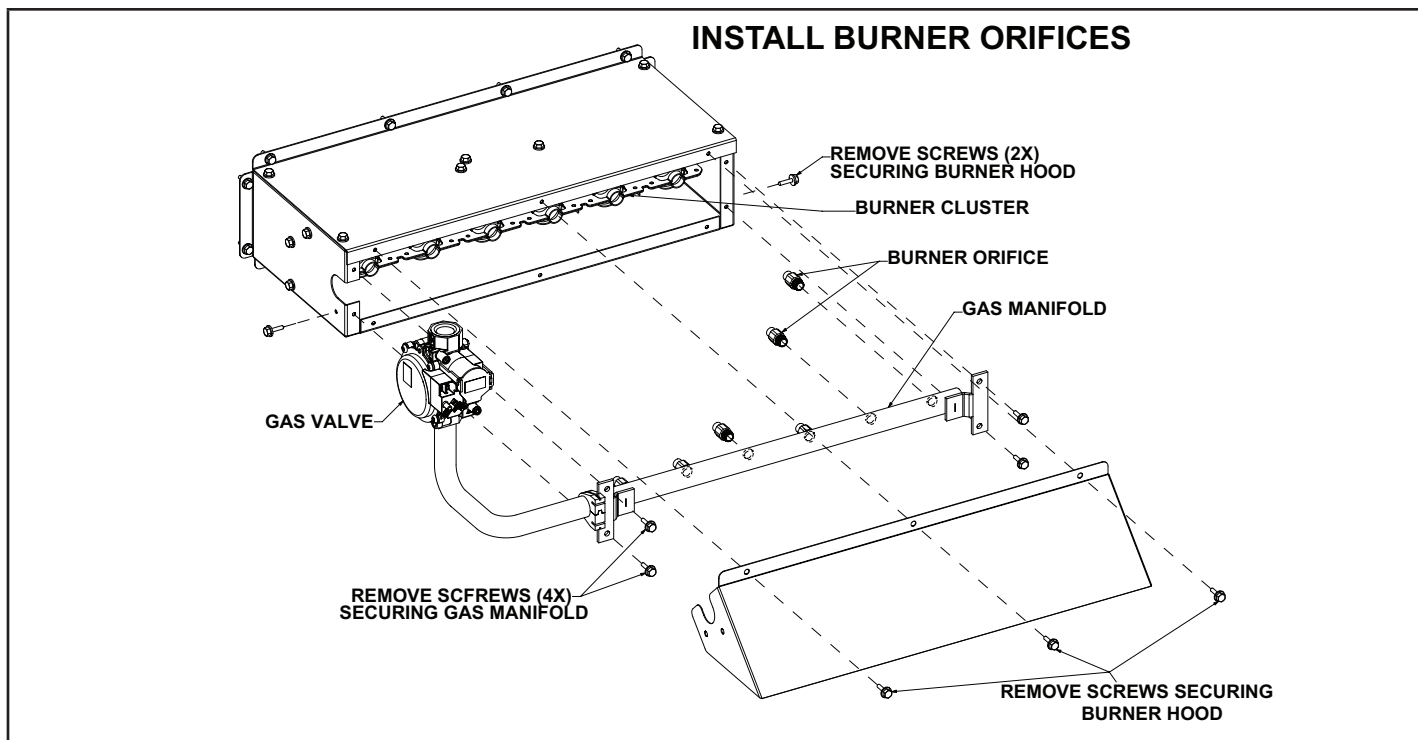

Figure 1
- 6 - Remove screws on the gas manifold assembly which hold the assembly to the burner box. See figure 1.